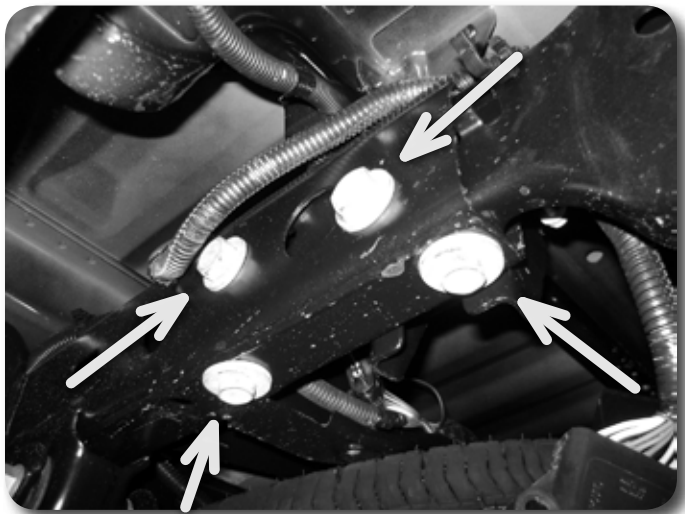

Figure 4
5. Remove the 8 bolts (4 per side) mounting the rear bumper assembly to the frame rails. Remove the bumper from the vehicle. Figure 4 Save hardware.